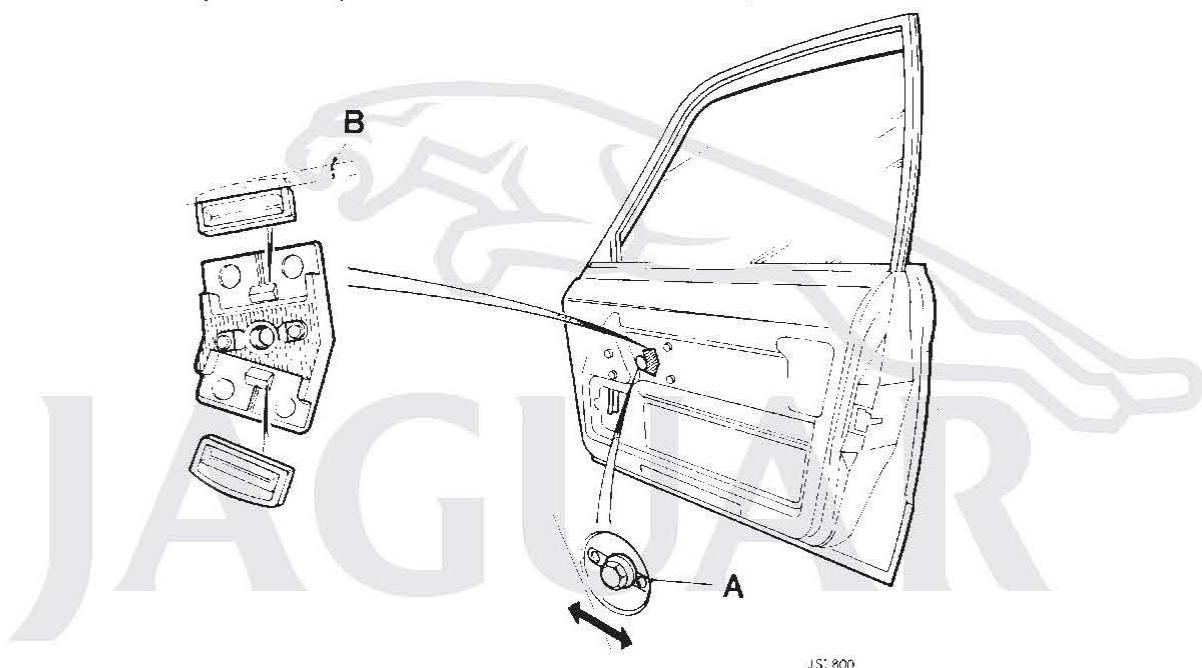

FIG 1
3. Release and remove the window stop bolt (A Fig 1. Note: Front door shown). Remove the stop assembly.
4. Mark out and remove 3mm from the upper nylon block using a file (B Fig 1).